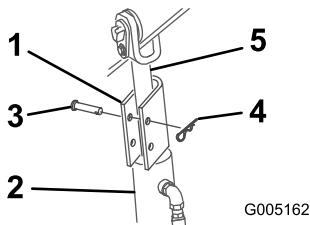

Figure 17
4. Position a cylinder lock over each lift-cylinder rod (Figure 17).
5. Secure each cylinder lock with a clevis pin and cotter pin (Figure 17).